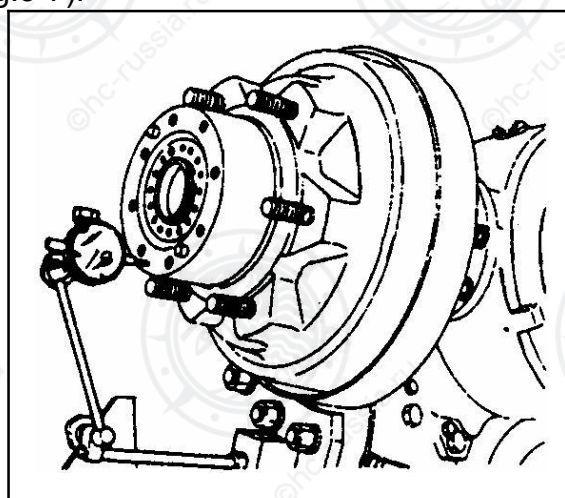

Fig.5-7
- 8) Measure axial play of wheel hub to see if it is within specification. Axial play is less than 0.10mm (refer to Fig.5-7).